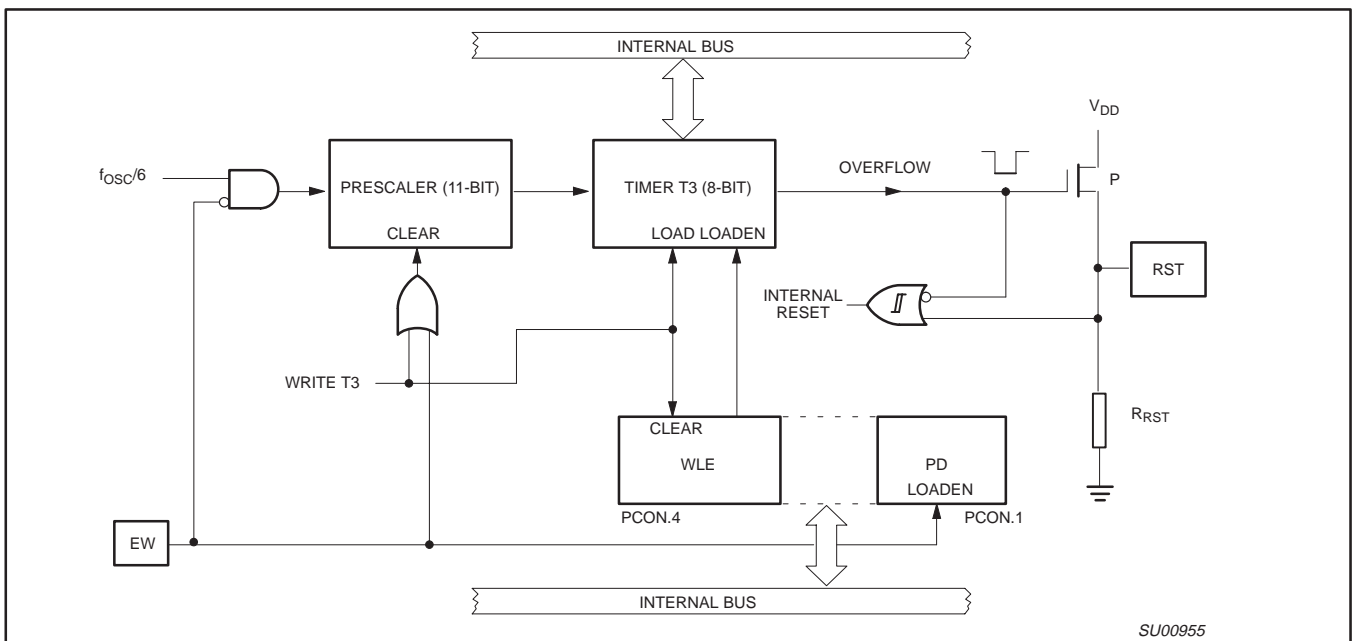

Figure 18. Watchdog Timer
**Watchdog Circuit Description:** The watchdog timer (Timer T3) consists of an 8-bit timer with an 11-bit prescaler as shown in Figure 18. The prescaler is fed with a signal whose frequency is 1/6 the oscillator frequency (0.5 MHz with a 12 MHz oscillator). The 8-bit timer is incremented every “t” seconds, where: